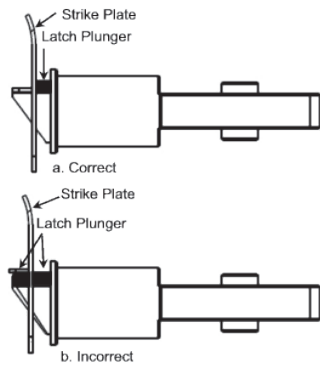

fig. 12
7. Caution: User MUST install strike plate included in package. The existing strike must be removed if there is one on doorjamb. Check the operation of the latch by ensuring that the latch plunger stops against the strike plate and does not slide into the strike opening when the door is closed (see fig. 12). If that situation occurs, then a total lockout may occur. This situation will void our warranty of the complete lock mechanism. If necessary, correct the door over-travel by using the rubber bumper (see fig. 13). You may buy the rubber bumpers from your local hardware store.